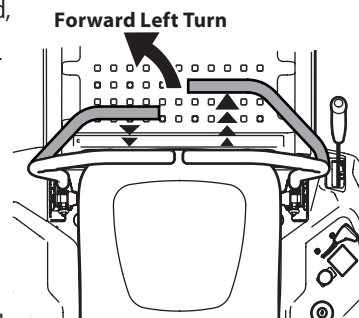

Figure 29
1. To turn to the left, move the left drive control lever rearward of the right drive control lever. See Figure 29.